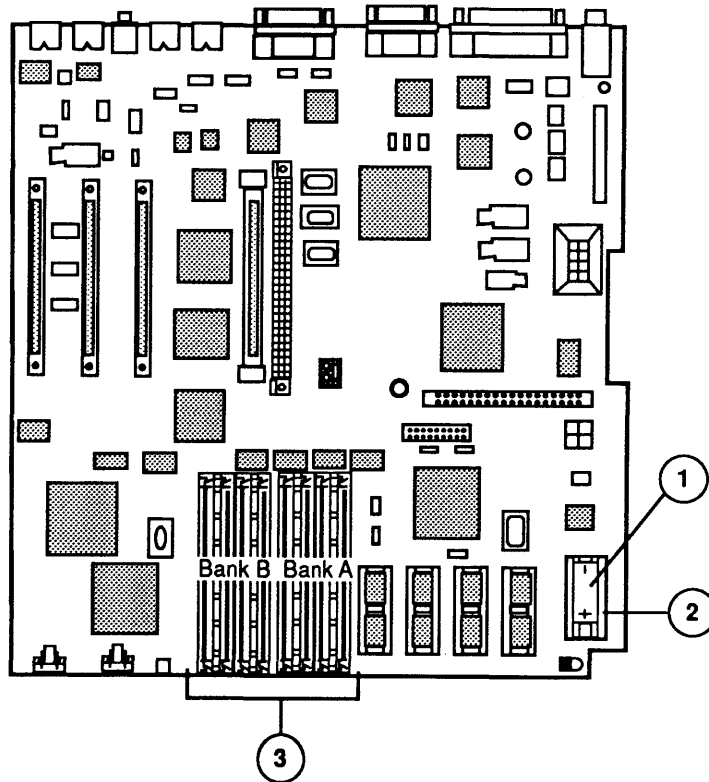

Figure 6 Macintosh IIci – Logic Board with Parity
□ **MACINTOSH IIci – LOGIC BOARD WITH PARITY (Figure 6)**